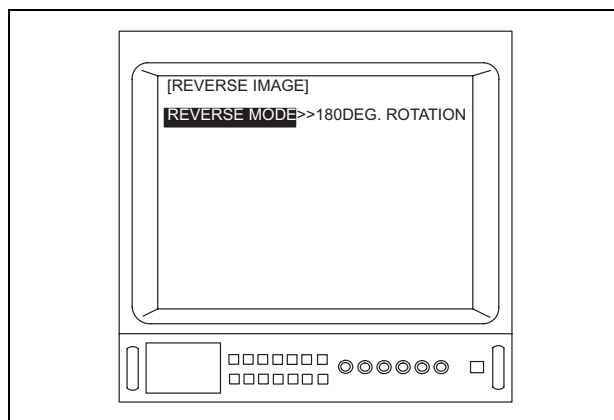

Figure 5.112
6. Depress the menu switch “←” or the “Enter” key on the keyboard to adjust “REVERSE MODE” (see Figure 5.112).
Depending upon the OTV-S7V's settings, the menu shown in Figure 5.112 may appear different from that displayed on the video monitor.